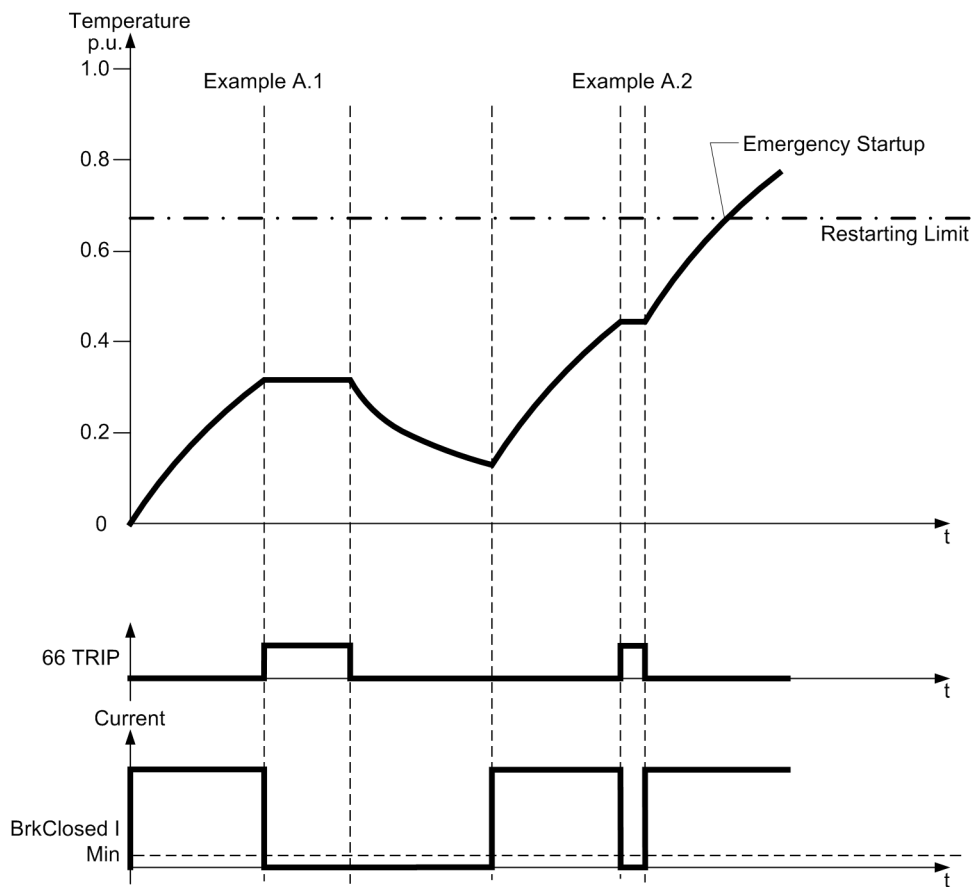

Figure 2-56 Startups according to examples A.1 and A.2
1. A normal startup brings the machine into a temperature range below the thermal restarting limit and the machine is stopped. The stop launches the equilibrium time 4304 T Equal and generates the message „66 TRIP“. The equilibrium time expires and the message „66 TRIP“ is cleared. During the time T Equal the thermal replica remains "frozen" (see Figure 2-56, on the left).
2. A normal startup brings the machine into a temperature range below the thermal restarting limit, the machine is stopped and is started by an emergency startup without waiting for the equilibrium time to expire. The equilibrium time is reset, the thermal replica is released and „66 TRIP“ is reported as going (see Figure 2-56, to the right).